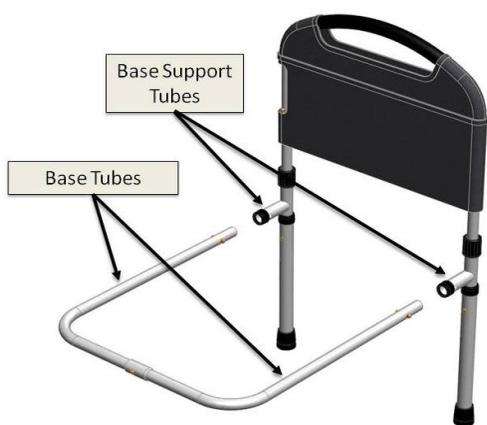

FIGURE 3
3. Attach Base Tubes into the Base Support Tubes as shown in Figure 3. Make sure the Spring Pins engage the hole in the Base Support Tubes.